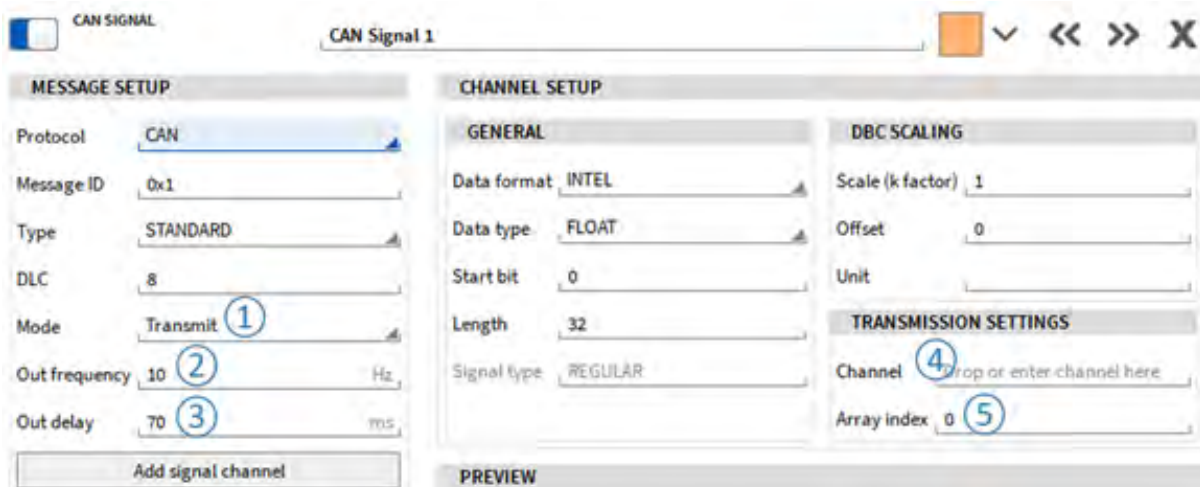

Fig. 7.212: CAN 出力設定
The Output Mode (see ⑥ in Fig. 7.212) setting has two options, AVERAGE calculates the linear average over one output period and LAST_VALUE outputs the last valid sample.